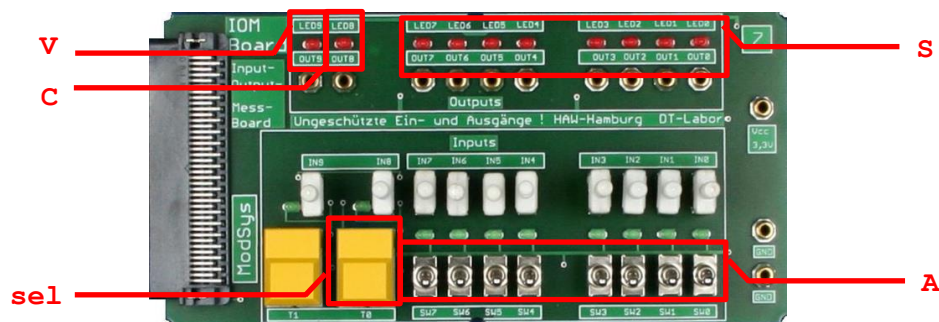

Fig. 7: PART 2 – VHDL Port mapping of Connector 3
- Extend the constraint file by mapping the `sel` and status bits `C`, `V`, `N`, `Z` to the buttons and LEDs, respectively (see Fig. 7/8).